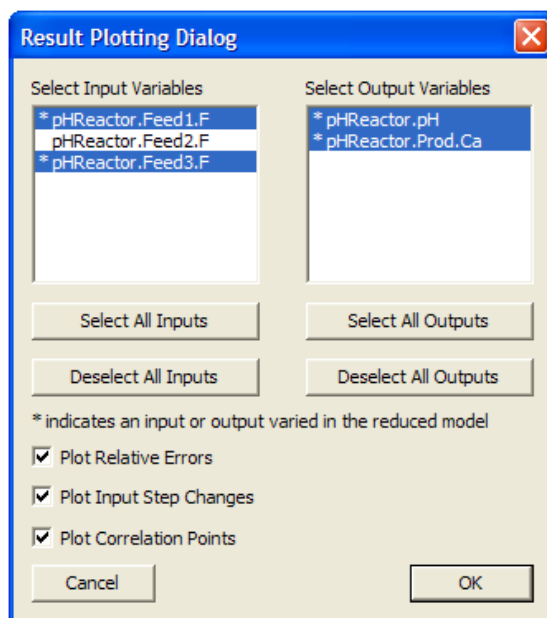
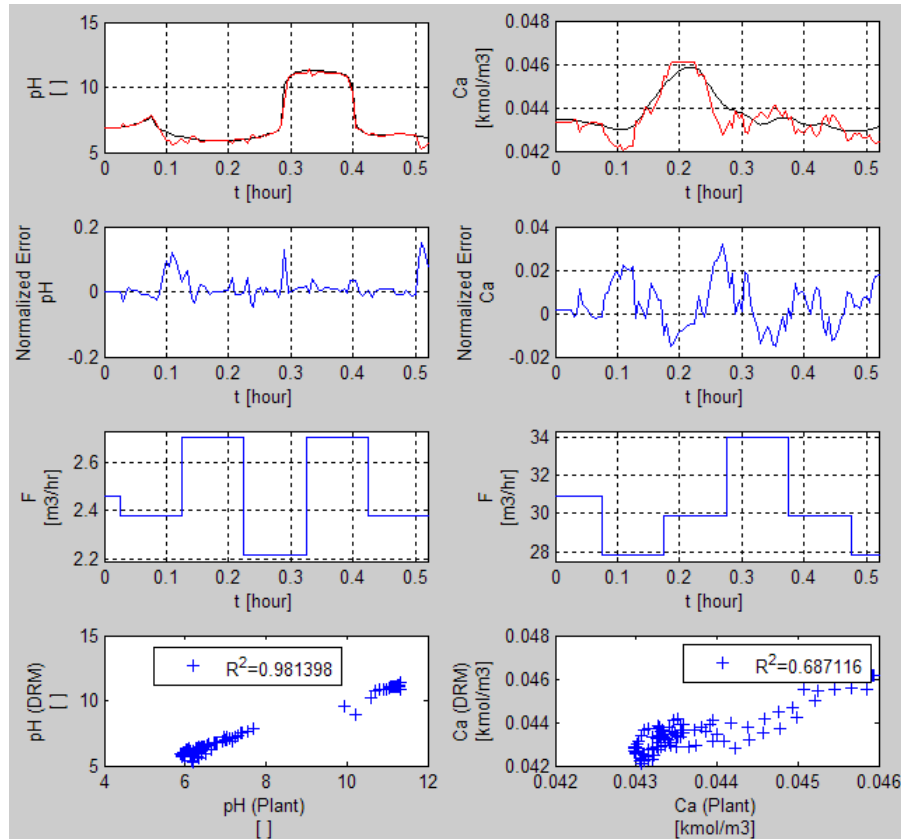

Figure 24: Result Plotting Dialog Window
Figure 26: Predicted Response of Validation Sequence using Default Pole Values
20. Issue the **Post-Process → Plot/Compare Training Responses...** command or click  on the toolbar. The “Result Plotting Dialog” window as shown in Figure 24 displays.
22. Issue the **Post-Process → Plot/Compare Validation Responses...** command or click  on the toolbar. The “Result Plotting Dialog” window as shown in Figure 24 displays. Select the first and the third input variables and all of the output variables and then click “OK”. A MATLAB command window displays immediately followed by the plot window as shown in Figure 26 and then a confirmation message window.
Again the  $R^2$  values for the validation data are much larger than those shown in Figure 26. Therefore the accuracy of the D-RM has been improved substantially after the pole value optimization.